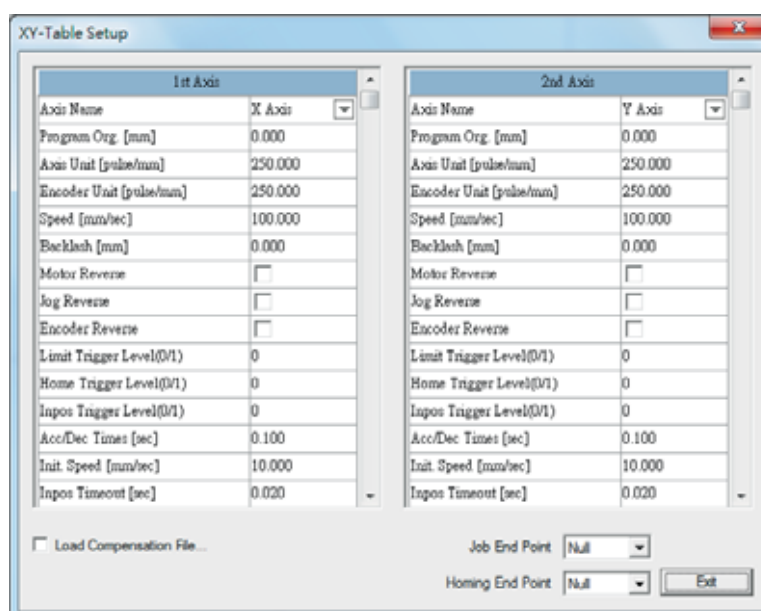

Fig. 1.7.26
6. Click “SETUP...” and do more detail settings, see Fig.1.7.26.